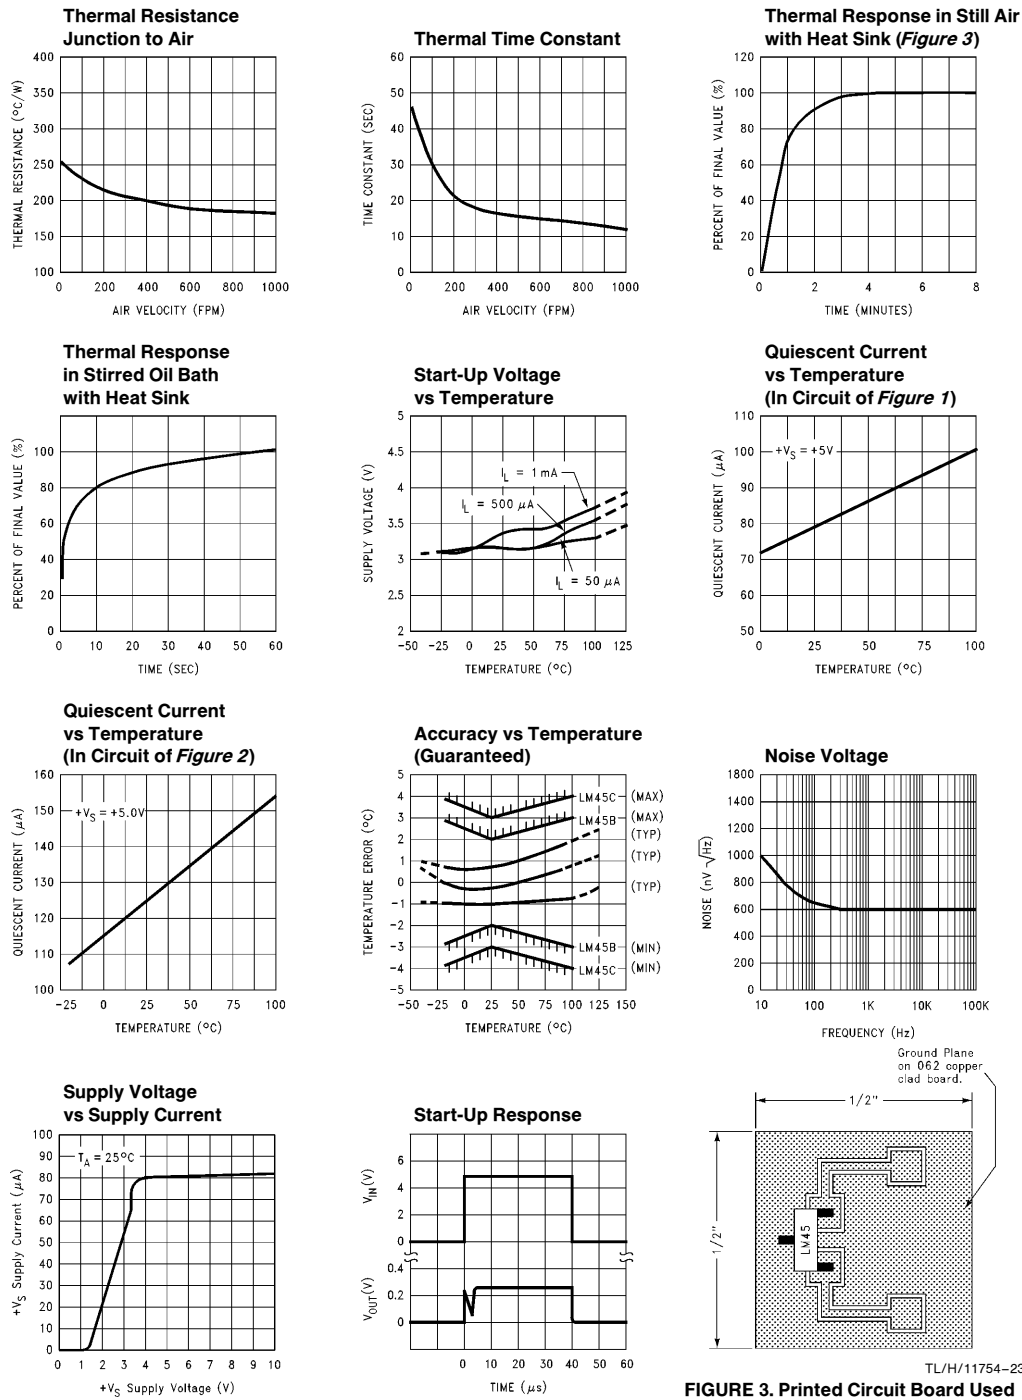

FIGURE 3. Printed Circuit Board Used for Heat Sink to Generate All Curves. 1/2" Square Printed Circuit Board with 2 oz. Foil or Similar
Note 4: Thermal resistance of the SOT-23 package is 260°C/W, junction to ambient when attached to a printed circuit board with 2 oz. foil as shown in *Figure 3*.
To generate these curves the LM45 was mounted to a printed circuit board as shown in *Figure 3*.
* Heat sink used is 1/2" square printed circuit board with 2 oz. foil with part attached as shown in Figure 3.